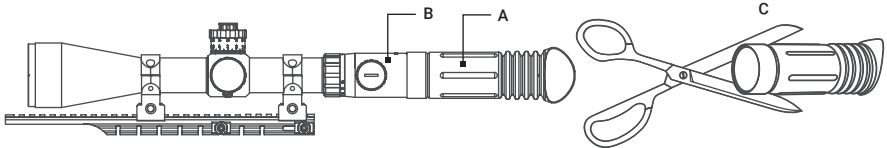

FIGURE 2-5. LIGHT SUPPRESSOR FOR A DAY SCOPE
The Light Suppressor for a Day Scope (A, Figure 2-5) slides over the eyepiece of your daytime scope (B). The suppressor can be used with scopes that have 40..43mm eyepiece diameter and 100..120 mm eye relief.